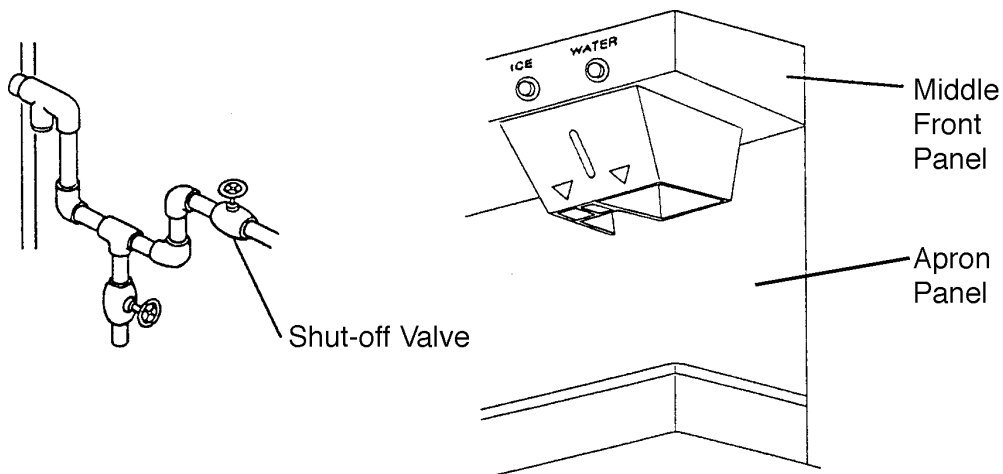

Fig. 11
11. PREPARING THE ICEMAKER FOR LONG STORAGE - See Fig. 11 and 12